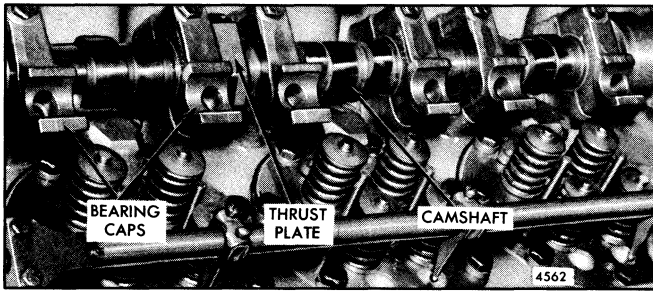

Fig. 7 - Camshaft Bearing Caps and Thrust Plate
- b. If removed, install a thrust plate and spacer to the R-1 1 and L-8 bearing caps on a 12V-149 or R-15 and L-10 bearing caps on a 16V-149 engine (Fig. 7). Tighten the bolts. Install the thrust bearing caps in their original position on
12. If removed, install the thrust plates and spacers to the R-5, L-2, R-11 and L-8 bearing caps (Fig. 7). Tighten the bolts.